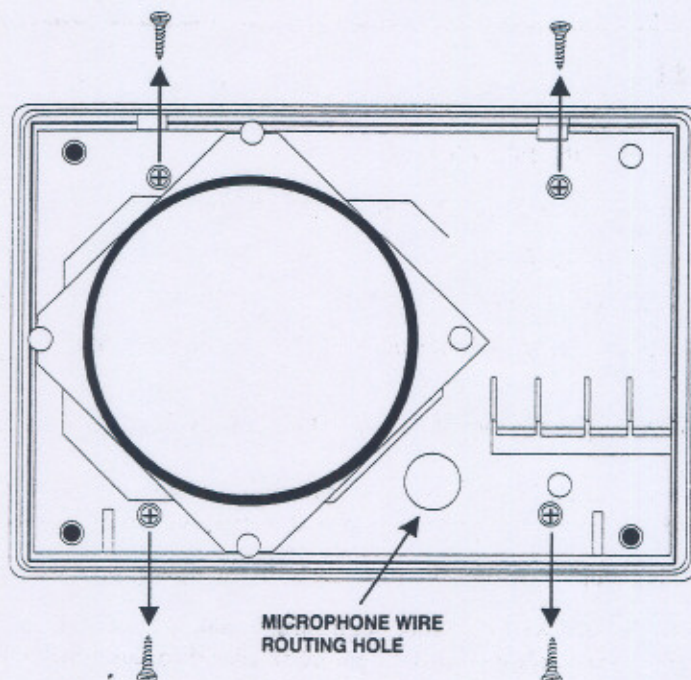

Figure 2.2 Speaker Plate Screw Removal
2. Remove speaker plate by removing the four speaker plate screws. (See Figure 2.2.)